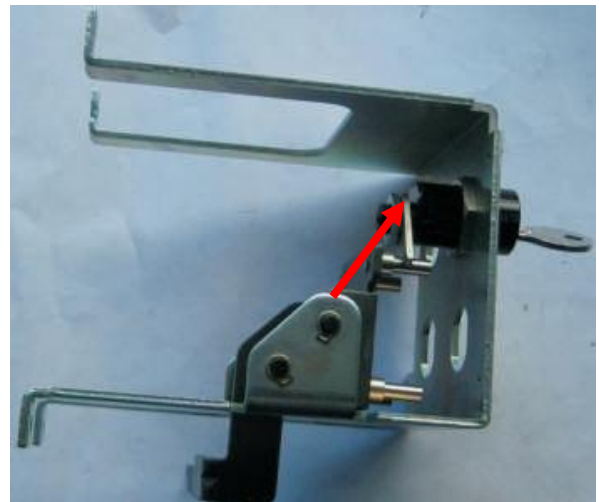

Figure 2.
5. Fix each lock to the lock bracket using the fixation nuts as indicated in Fig. 2